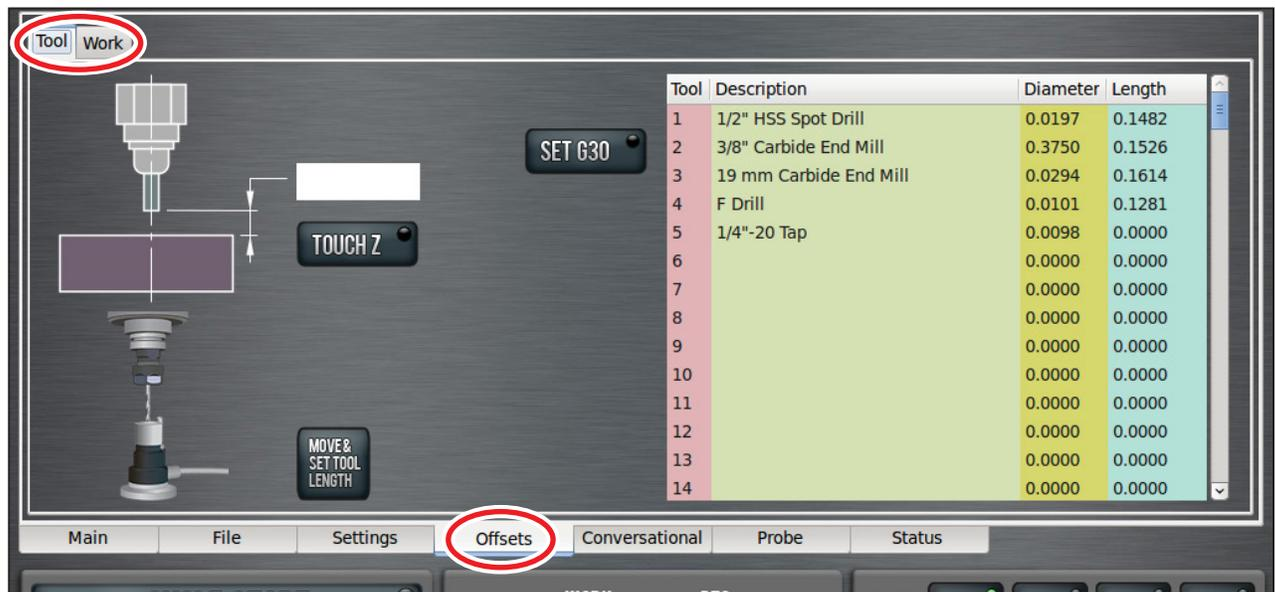

Figure 6.19
The *Offsets* tab reveals two sub tabs: *Tool* and *Work* (see **Figure 6.19**).
The *Tool* tab displays a tool table on the right with fields available to input tool information (see **Figure 6.19**).
4. From the PathPilot interface, click the appropriate line in the tool table (see **Figure 6.19**); the line is highlighted.
5. Press *Data* on the USB interface cable to transfer measurement information to the *Length* field in the tool table (see **Figure 6.19**).